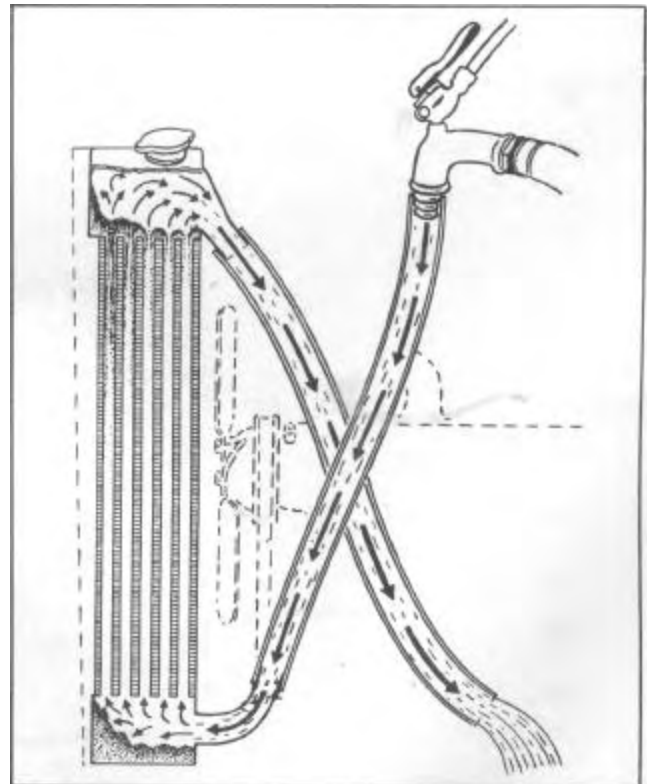

FIGURE 1
2. Install radiator cap and attach long hoses to radiator connections as shown in Figure 1. Insert the flushing gun as shown.